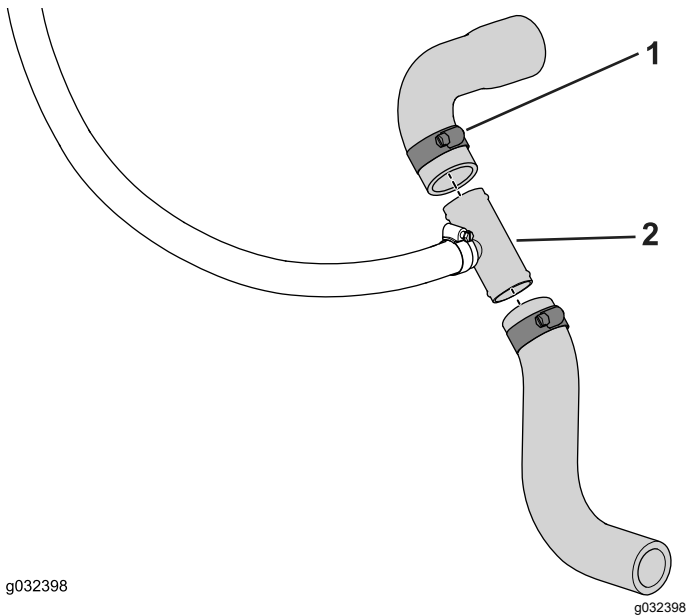

Figure 11
3. Slide the cut ends over the tee fitting and secure it using the hose clamp (3/4 to 1-1/2 inches) as shown in Figure 11.